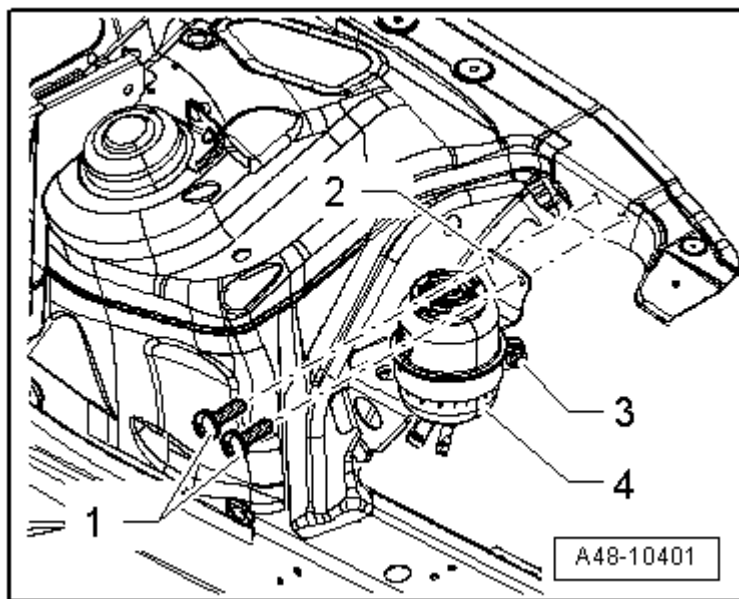

Fig. 19: Reservoir Bracket To Body
1. Reservoir bracket to body, refer to **Fig. 19**